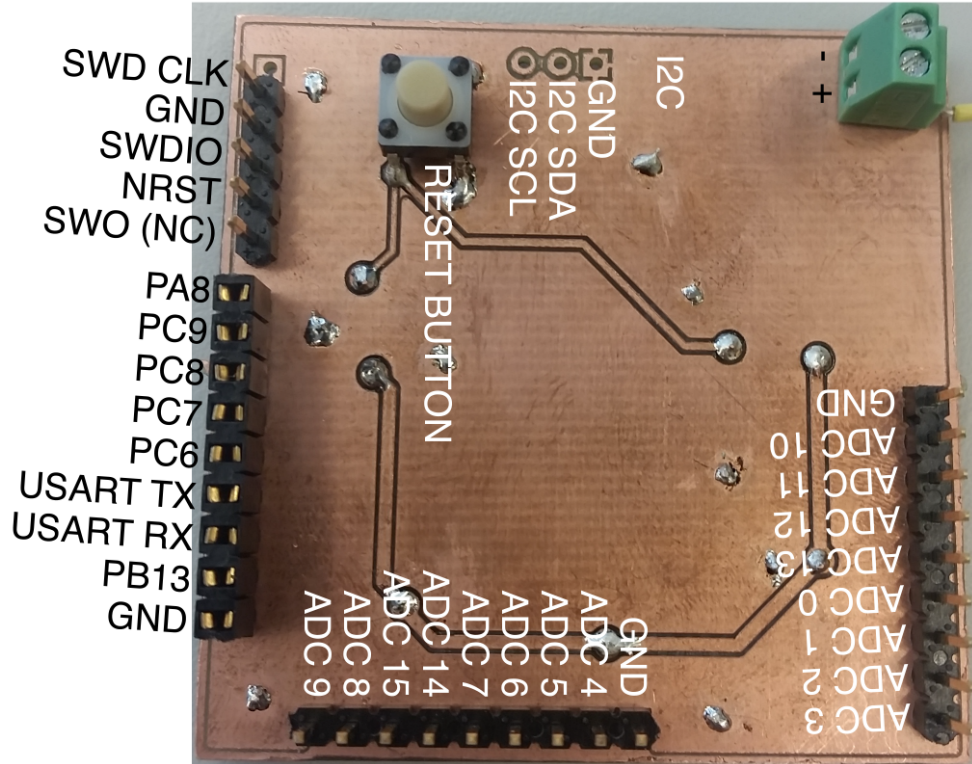

Figure 1 - ports on PCB
3. Connect USB with RS232 cable (http://www.lawicel-shop.se/prod/TTL-232R-USB-5V-cable-33V-IO_794885/Sparkfun_64668/SWE/SEK) to USART, according to figure 1.
2. Connect SWD port to PCB according to figure 1.
Note that the USER LED (see figure 1), is connected to GPIO PB12.